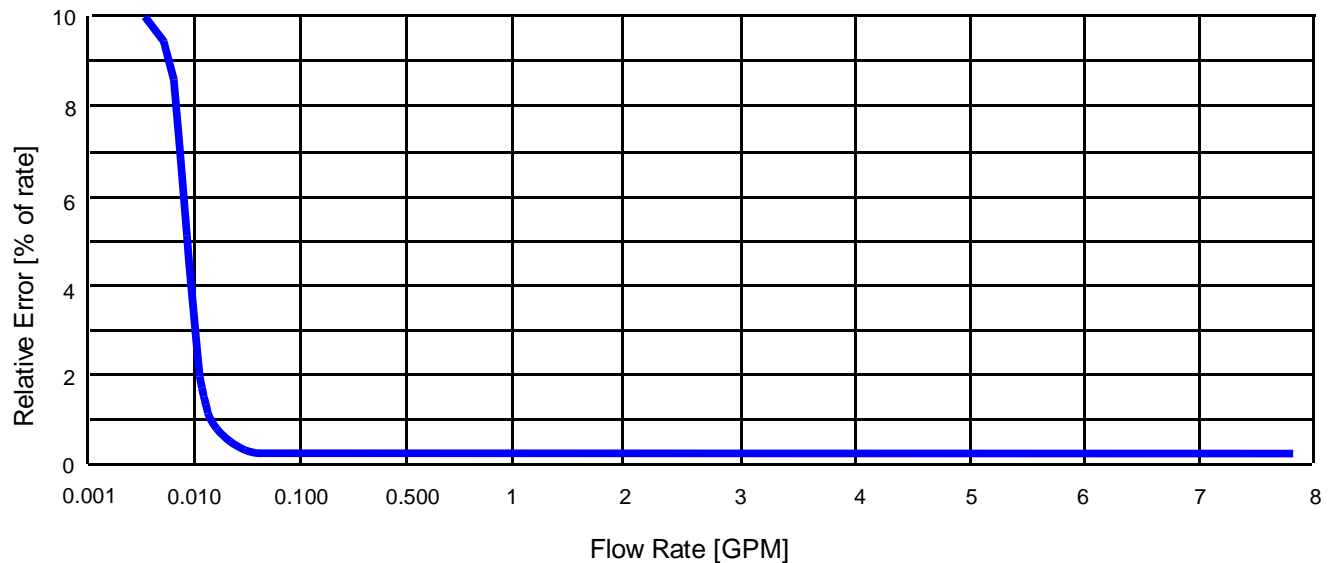

Fig. 1 GMAG100 error vs. Flow Rate
**Note:** The flow rate on Fig. 1 exceeds 6.6 GPM. When MODBUS is used to read flow rate and total, there is no limit. The limit is only by the mechanics of GMAG100 and we do not recommend using it above 8 GPM.